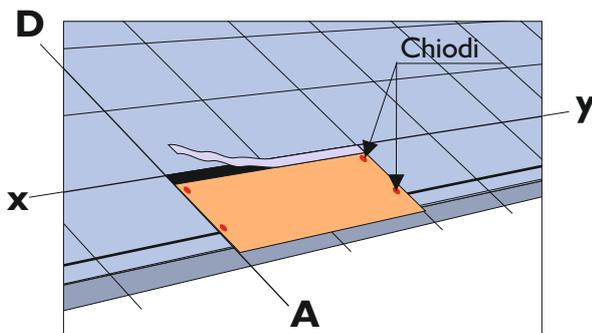
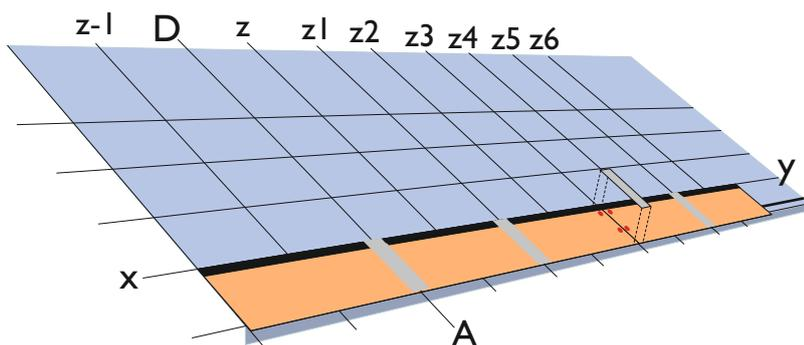
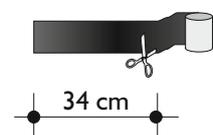

Fig. 4 - Installation of the first shingle Compact
Fig. 6 - Installation of Compact Strip
Fig. 7 - to cut of “Compact Strip”
- The first row starts by aligning the first PRESTIGE COMPACT shingle along the line AD (Fig. 4) and nail as shown in picture 5.
- Before the installation of the second row of shingles remove the protection of the self adhesive fascia (Fig. 4), and cut pieces of 34 cm of “Compact Strip” (Fig. 7) which will be installed at the center of the joints of the shingles (Fig. 6), taking care to press them down for a perfect adhesion. Don't remove the white film on the top side of the “Compact strip”.